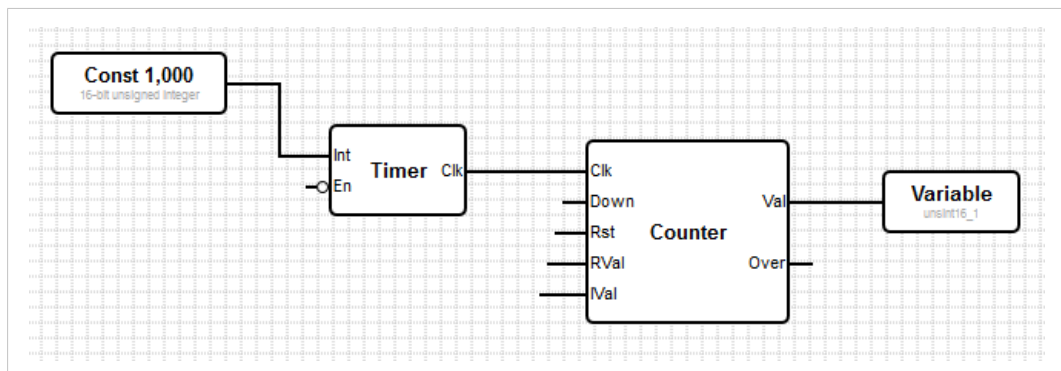

Fig. 11 Example application
- ▶ Connect the ports according to Fig. 11 Example application.